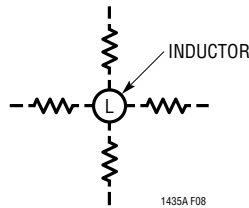

Figure 13. Allowable Inductor/ R_{SENSE} Layout Orientations
Because of the sensitivity of the LTC1436A/LTC1437A current comparator when operating close to the minimum on-time limit, it is important to prevent stray magnetic flux generated by the inductor from inducing noise on the current sense resistor, which may occur when axial type cores are used. By orienting the sense resistor on the radial axis of the inductor (see Figure 13), this noise will be minimized.
9. If operating close to the minimum on-time limit, is the sense resistor oriented on the radial axis of the inductor? See Figure 13.